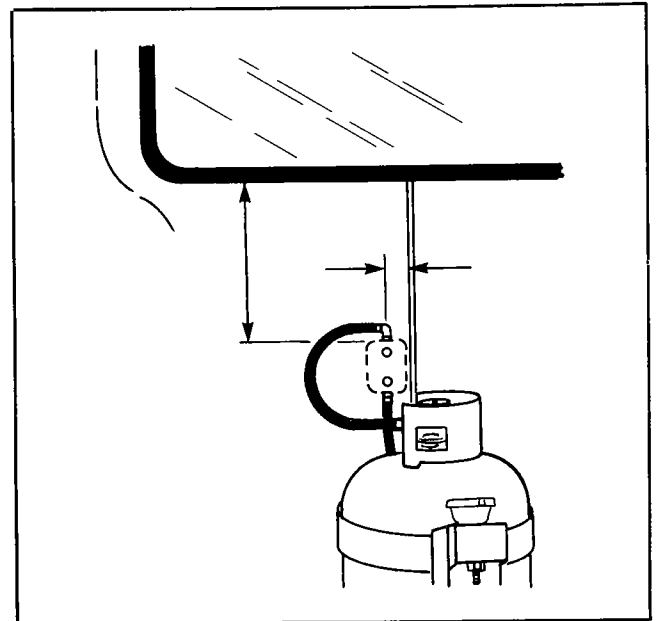

Figure 36. Measurements for LP Regulator Access Holes - External
1. On the outside of the camper, measure from the bottom edge of the regulator and from the center seam to the center line of the regulator (figure 36).